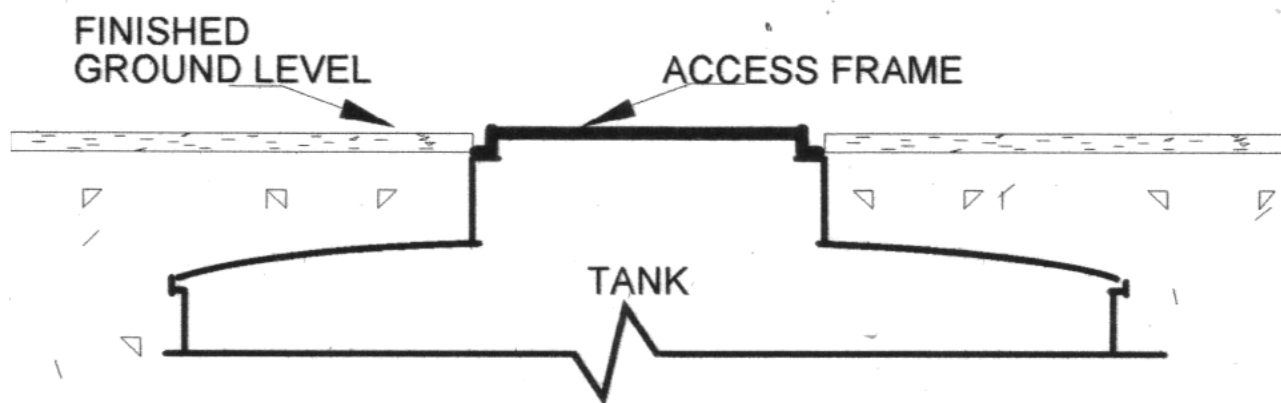

Fig. 1
15. (If required) construct concrete cover slab (with access opening) of maximum 200mm thickness, ensuring that the slabs supported by consolidated backfill. Or utilise engineering brick courses to the sides of the GRP opening/man way, again these must be supported by consolidated backfill/concrete. (FIG 1)
16. Vehicle Area installation - The access cover/frame would have been supplied unattached to the tank. Set frame into concrete cover slab or onto brick courses (FIG1)